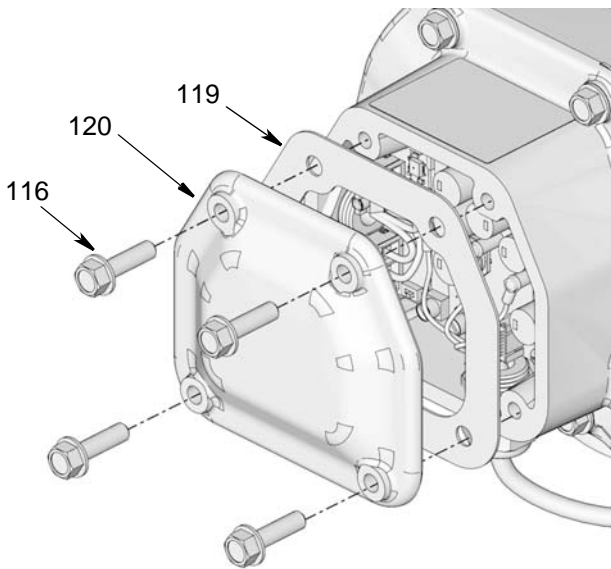

FIG. 1
2. On Dyna-Star pump, remove screws (116) from motor control box cover (120) and remove cover and gasket (119) (FIG. 1).